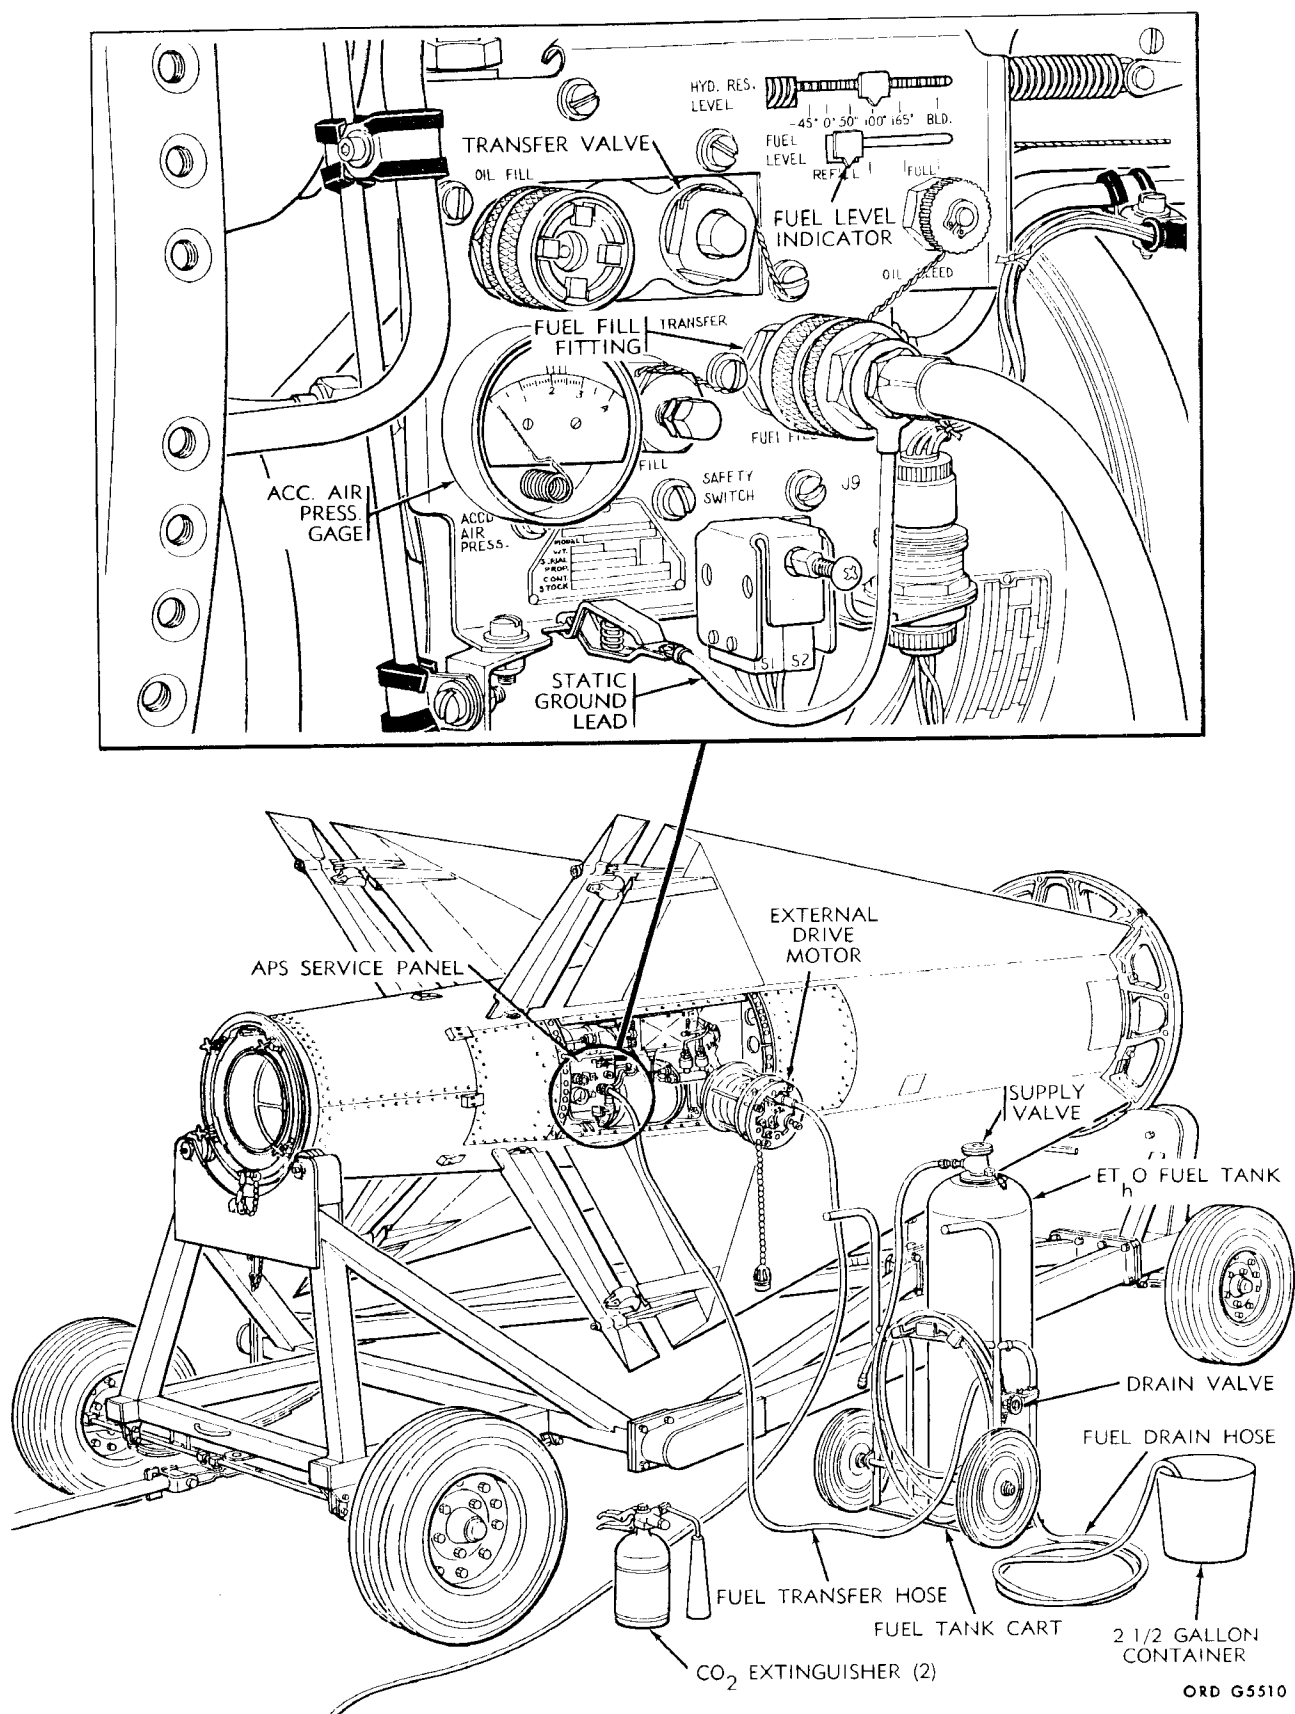

Figure 11-2. APS Defueling.
b. Connect the static ground lead (fig. 11-2), attached to the end of the fuel transfer hose, to the APS service panel wherever a satisfactory ground connection can be made.
o. Set the external drive motor switch (fig. 4-9) to ON. Allow the external drive motor to accelerate to operating speed as indicated by the change in the pitch of the external drive motor sound. The ACC. AIR PRESS. gage (fig. 11-2) indicates 2,500 to 3,000 psi.
s. Depress the TRANSFER valve (fig. 11-2) on the APS service panel, and hold for a minimum of 25 seconds. The ACC. AIR PRESS. gage indicates the ambient temperature; release the TRANSFER valve.